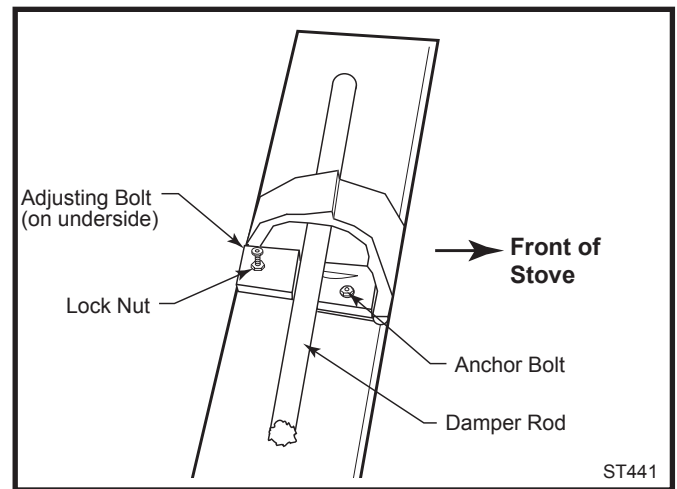

Fig. 28 Damper adjustment.
1. From inside the stove, first loosen and then remove the two (2) nuts on the threaded rods that secure the top plate to the inner top of the stove.
3. Loosen the adjusting bolt's lock nut. (Fig. 28)